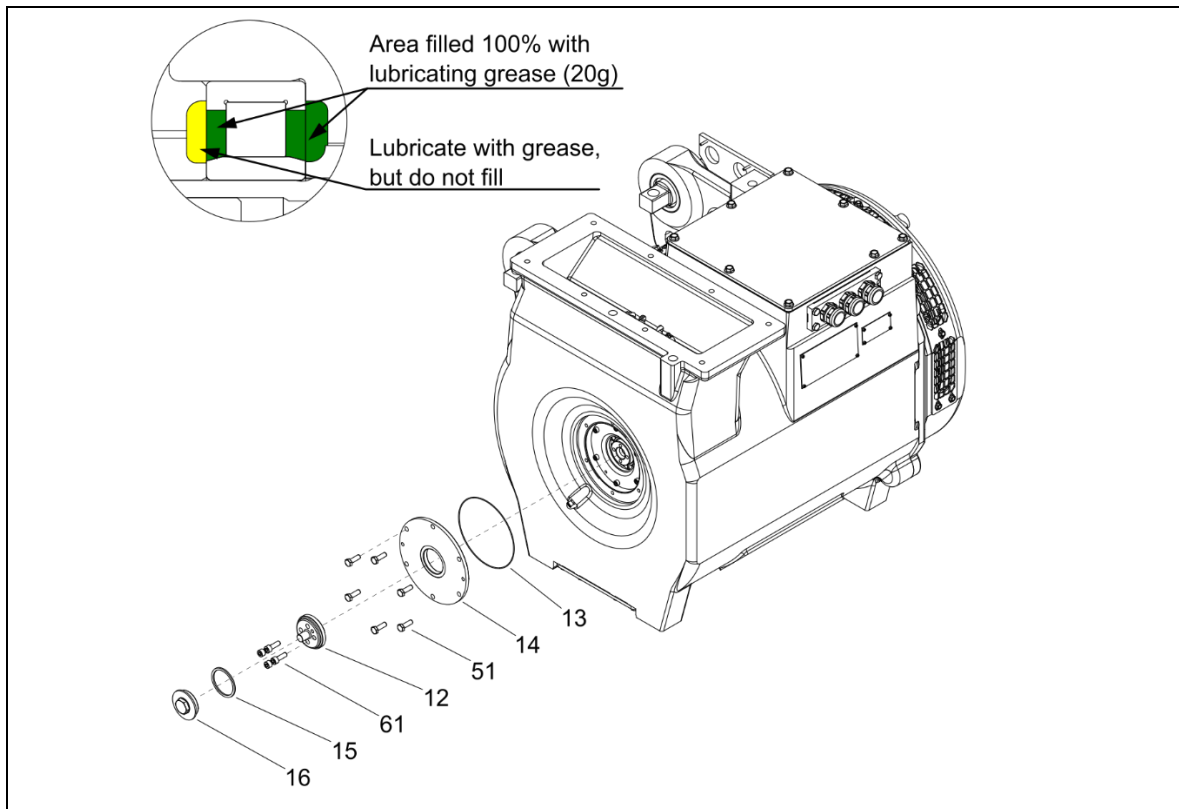

Figure 42: Assembling the cover NDE
- 1 Attach the O-ring (13).
- 2 Apply some thread locker to threads of hexagon head screws (51).
- 3 Attach the bearing cover NDE (14).
- 4 Fasten the cover NDE (14) with six hexagon head screws (51).
- 6 Apply some thread locker to threads of four hexagon socket screws (61).
- 7 Lubricate the end plate (12) according the Figure 42.
- 8 Attach the end plate (12) and fasten with four hexagon socket screws (61).
- 10 Place the sealing ring (15) and fasten it with reworked locking screw (16).